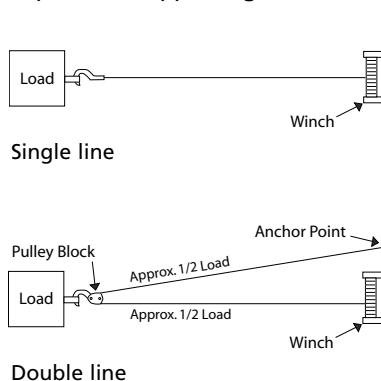

Figure 2
1. The AC1000 winch is rated at 1,000 pounds (454 kg) (single line) capacity on the wire rope layer closest to the drum. **DO NOT OVERLOAD. DO NOT ATTEMPT PROLONGED PULLS AT HEAVY LOADS.** Do not maintain power to the winch if the motor stalls. Overloads can damage the winch and/or the wire rope and create unsafe operating conditions. **FOR LOADS OVER 750 POUNDS (340 KG), WE RECOMMEND THE USE OF THE OPTIONAL PULLEY BLOCK TO DOUBLE LINE THE WIRE ROPE** (Figure 2). This reduces the load on the winch and the strain on the wire rope by approximately 50%. Do not hook back to winch. Always hook onto structure capable of supporting load.